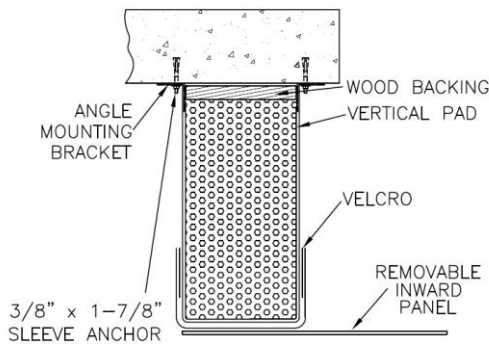

FIG. 9
- i. Once the vertical pad is in position, drill a 3/8" hole into the mounting location and then drive a 3/8" sleeve anchor bolt (**Fig. 9**) through each of the upper and lower brackets (**use holes provided**).